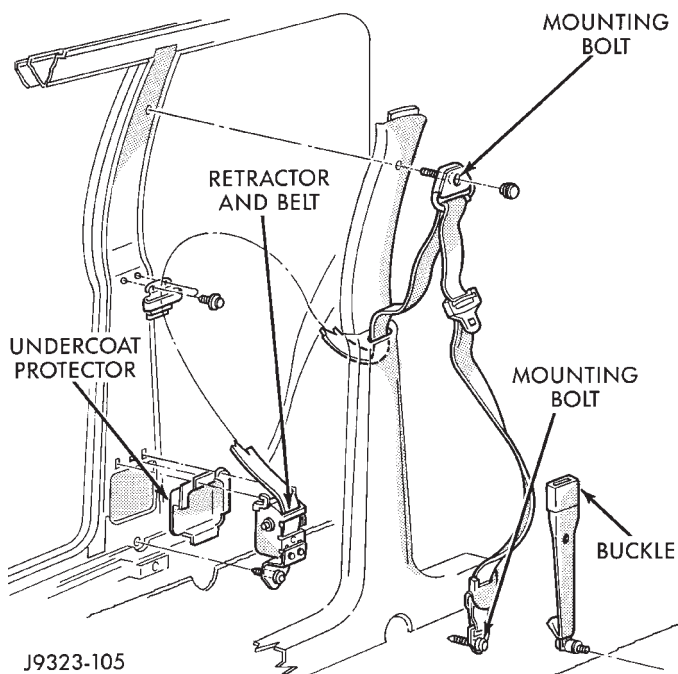

Fig. 19 Front Shoulder Belt/Buckle
- (4) Remove buckle anchor bolt with a Torx bit (Fig. 19).
- (5) Remove shoulder belt buckle from transmission tunnel.
- (6) Remove cap concealing shoulder belt upper anchor bolt (Fig. 19).
- (8) Remove lower A to B trim panel, refer to service procedure. Remove shoulder belt lower retractor anchor bolt with a Torx bit (Fig. 19).
- (9) Remove shoulder belt and retractor (Fig. 19).